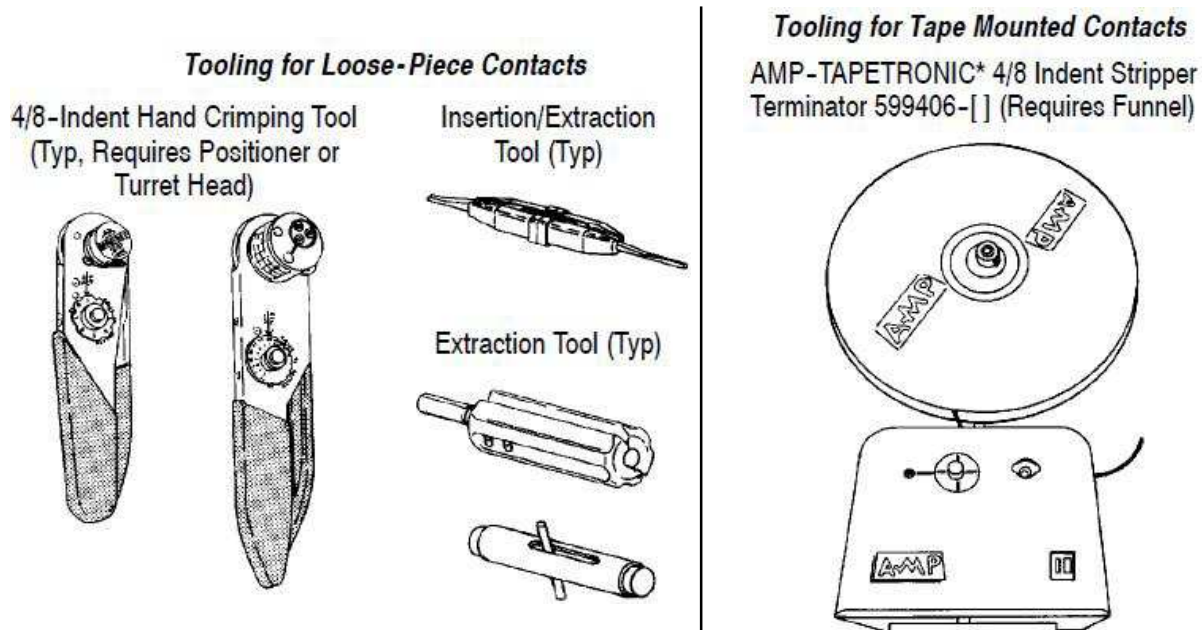

Figure 1
- The screw-machine contacts are supplied in loose-piece for manual (4/8-indent hand crimping tools) application and tape mounted for power assisted (machine) application. Insertion and extraction tools are used to insert contacts into and extract contacts from connectors (see Figure 1).